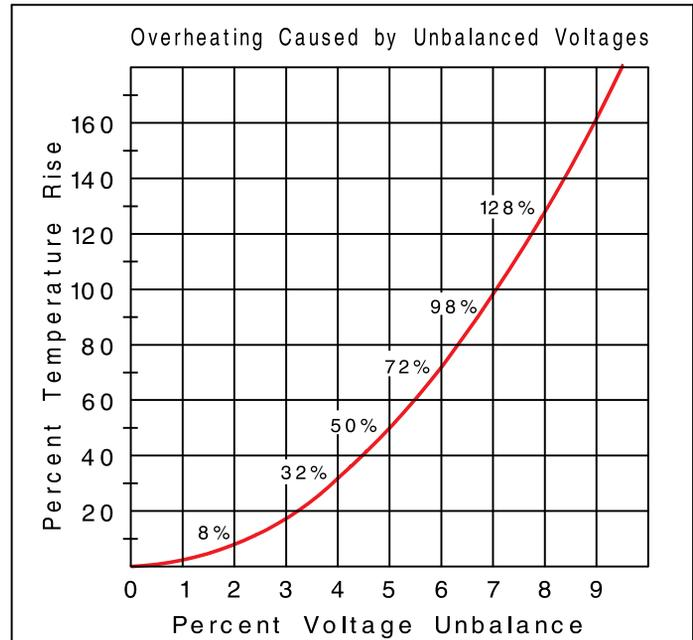

Figure 1
**Calculating percent overheating:** In the phase with the greatest unbalance, the percentage increase in temperature will be approximately two times the square of the percentage voltage unbalance. Using the 5.9% voltage unbalance from the above example, the resulting overheating percentage would be:  $5.9 \times 5.9 \times 2$ , or almost 70%! (See chart Fig. 1)